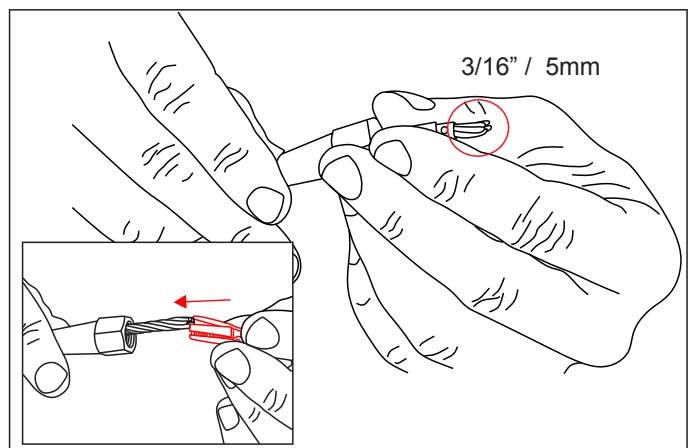

Fig. 7
- Open the jaw and insert one end of the cable into the jaw. The cable has to come out of the circular end of the jaw about 3/16ths of an inch (or 5mm) (Fig.7).